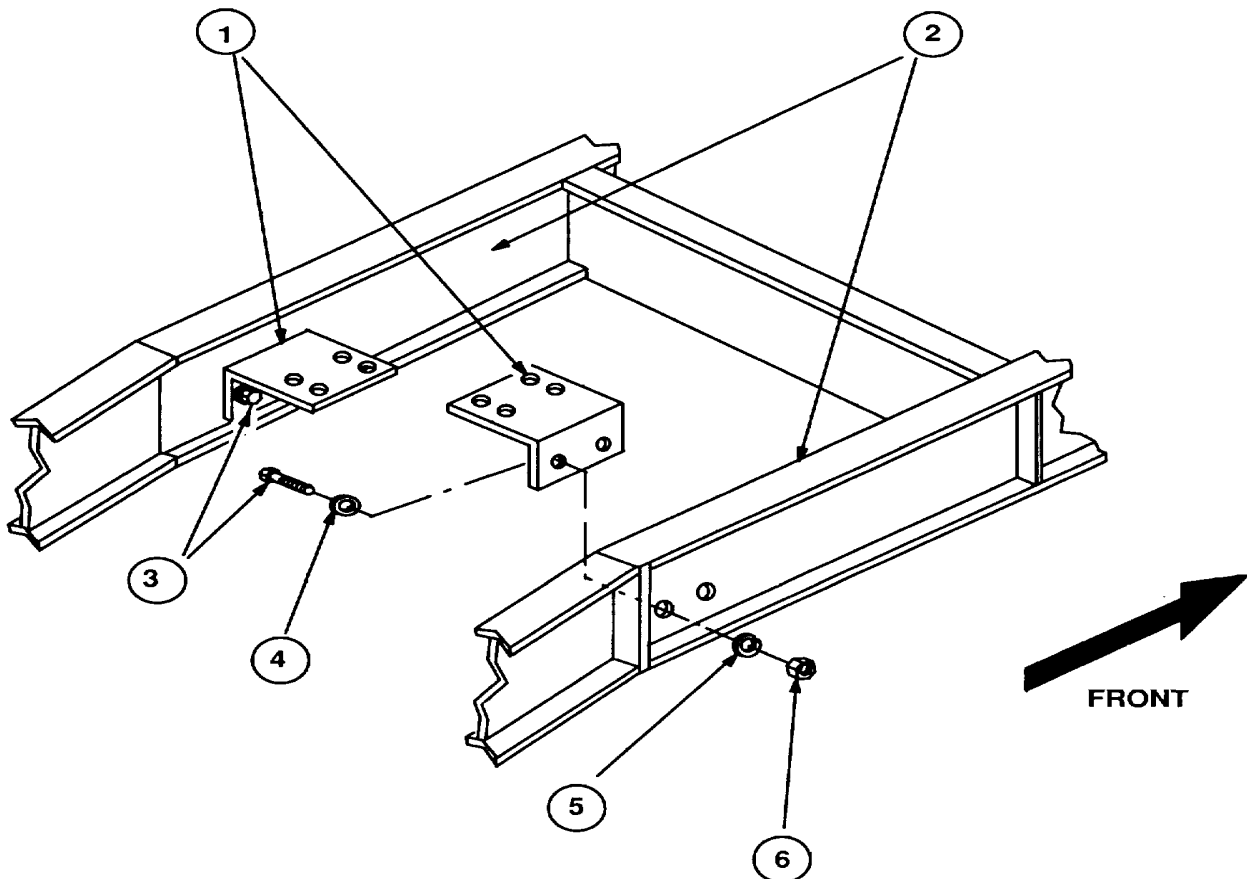

Figure 2.
(5) Drill a 3/16-inch to 3/8-inch pilot hole and enlarge to a 7/16-inch hole in main frame rail (2) at the four locations marked. Have a helper apply lubrication during drilling.
e. Refer to Figure 2.
(1) Install two new mounting brackets (1), PN 112472, inside main frame rails with short side against frame rails (2) as shown. Aline hole of new mounting brackets with mating holes in mainframe as shown in Figure 2.
(2) Secure new mounting brackets (1) to main frame rails (2) using screws (3) PN 290964, flatwashers (4) PN 204235, lockwashers (5) PN 202983 and locknuts (6) 298476. Torque locknuts (6) as specified in torque table located as appendix.